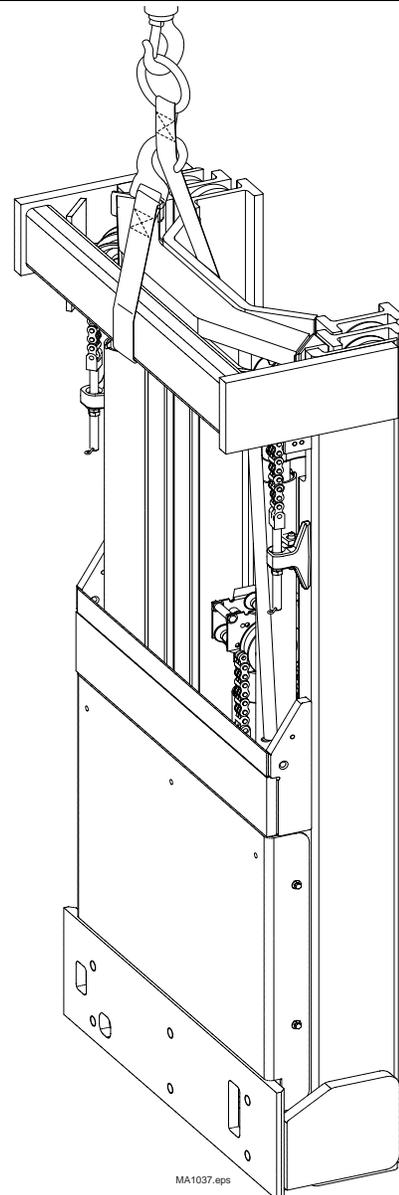

Figure 34A
8. Place lifting strap beneath the upper tie bars of the outer, intermediate and inner rail assemblies. Connect straps ends to the chain hoist. **Be certain the hoist is equipped with safety hooks.** See Figure 34A.